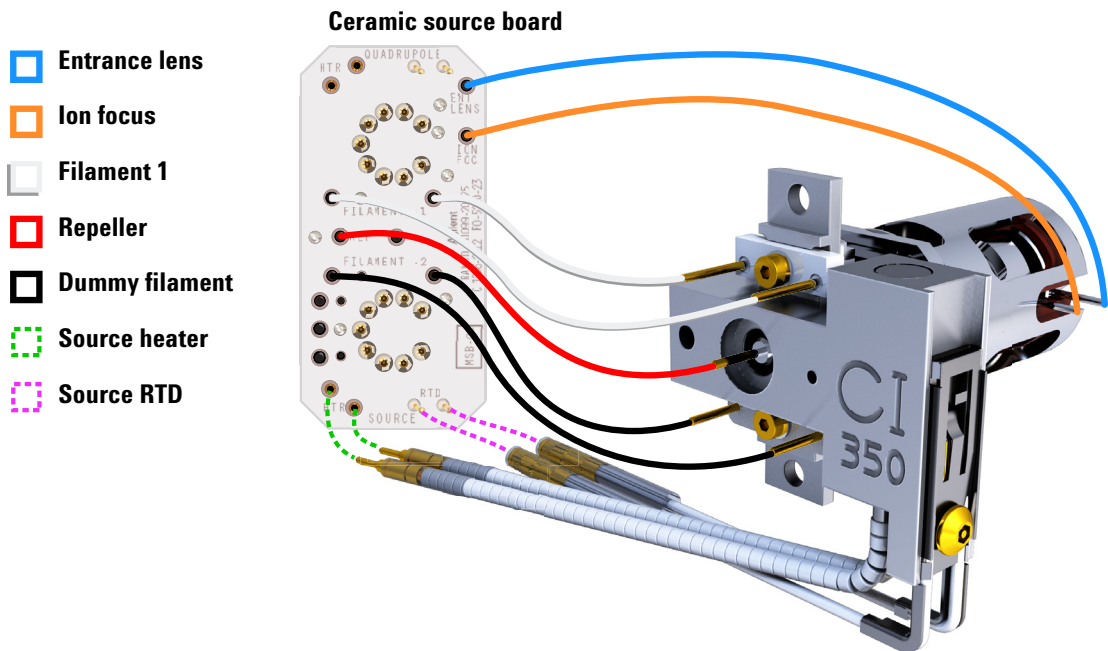

Figure 76 Wiring between the ceramic source board and the source
- 1 Use pliers to connect/disconnect the ceramic board wire leads at the source connectors. (See Figure 76.)
- 2 Use pliers to connect/disconnect the source heater wire leads at the ceramic source board. (See Figure 76.)